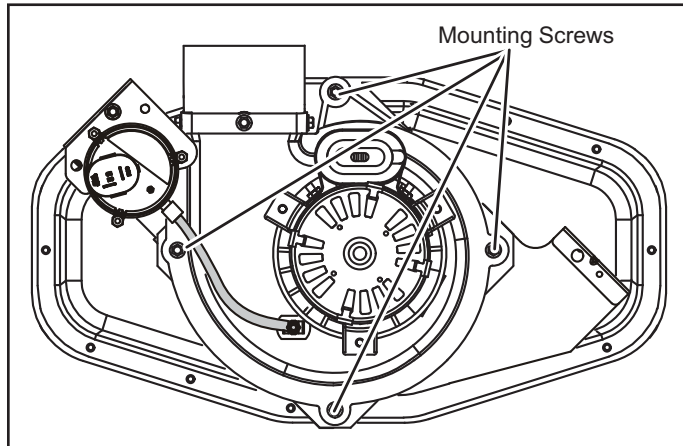

Figure 16. Mounting Screws Location
2. Remove the four mounting screws which secure the combustion air inducer / pressure switch assembly to the orifice plate. See Figure 16. Lift and rotate the assembly 90 degrees clockwise or counter clockwise to either the 3 o'clock position or to 9 o'clock position and re-secure with four screws. Gasket should be left in place.